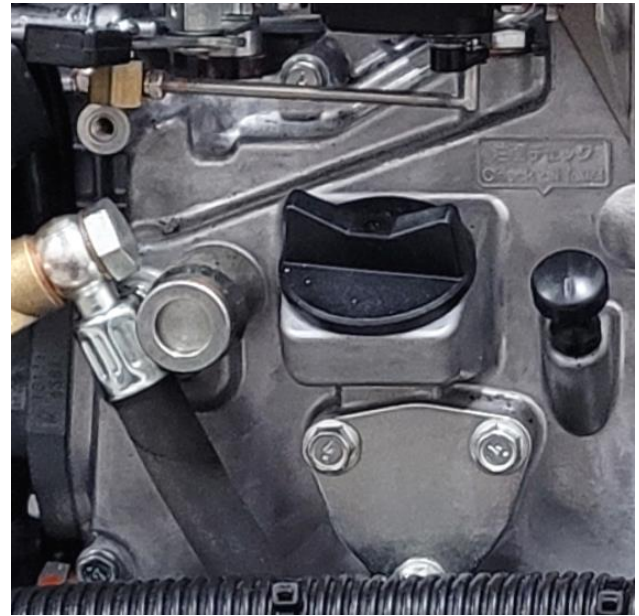

Figure 26: Oil filler cap
2. Press the fuel primer button (left arrow in Figure 26) for 3 minutes.
3. Check for air in the fuel by opening the fuel bleeder screw (right arrow in Figure 26) at the injection pump while pressing the fuel primer button.